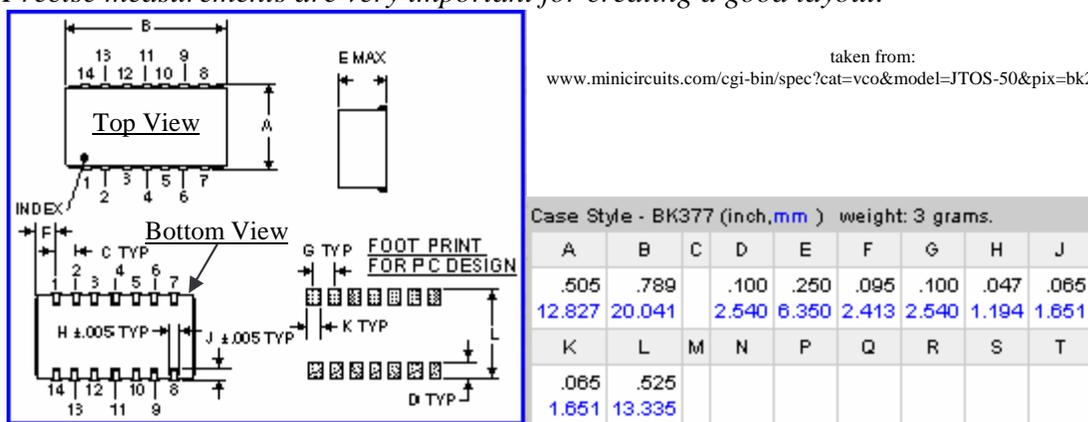
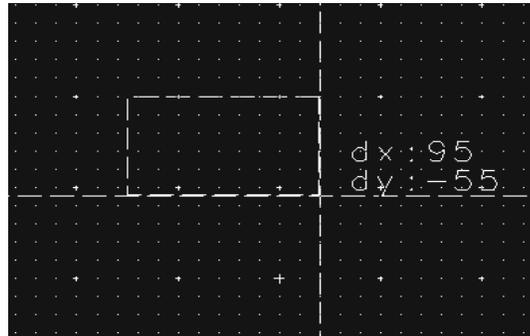
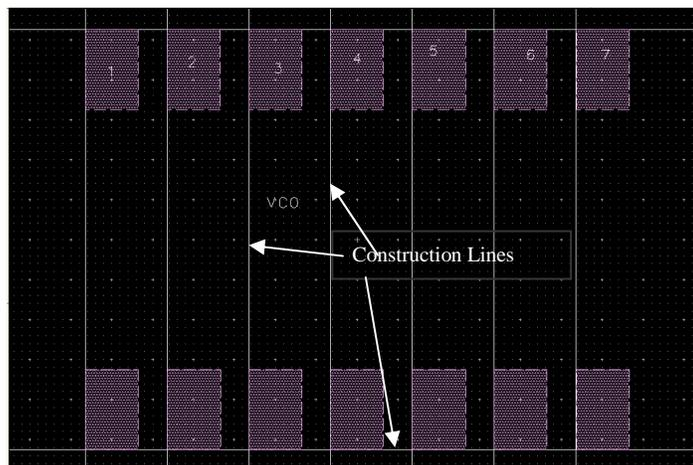

Figure 1: Suggested footprint for the Minicircuits JTOS-50 VCO
Figure 3: ADS Layout screen displaying rectangle placement
Figure 4: Finished VCO footprint with construction lines
The next step in PCB layout design is to create the footprints for each component that will be used in the design. This implies that the designer knows which components will be used before the design is begun. Most companies will provide spec sheets for their products. These spec sheets often contain suggested PCB layout footprints. For example, figure 1 shows the suggested footprint and dimensions for the Minicircuits JTOS-50 Voltage Controlled Oscillator. If part dimensions are not available, the component dimensions will need to be measured. To allow for error, the footprints on the PCB are usually designed to be a bit larger than the actual measurements. *Note: Precise measurements are very important for creating a good layout.*
For this specific component (figure 1) it is important to notice that the top-left picture is a top view of the VCO while the bottom-left picture is a bottom view of the same VCO. Notice particularly that pin 1 is the lower-left pin in the top view but is the upper-left pin in the bottom view. When creating the layout it is important to use the top view for the pin definitions. If the bottom view is used, the pins will be mirrored and will not be connected to the correct pads.
- 2) The footprint for the component in figure 1 is straightforward. As can be seen from the figure, the footprint consists of 14 pads (where the component's pins will be soldered) of equal dimension and spacing. For the VCO shown in figure 1 the pad dimensions are $D \times K$ or 100mils \times 65mils (see figure 1). These pads can easily be created using the **Insert Rectangle** command. As the rectangle is placed, the dimensions will be shown as seen in figure 3. By default, ADS will use increments of 5 mils (if mils are being used) for placing and moving elements. The dimensions can be made finer by selecting **Options à Grid Spacing** and then selecting the desired dimension resolution. The first of the three numbers corresponds to the increment size (i.e. for <5-1-100> the increment size will be 5mils). For footprints that don't use rectangular pads, the circle or polygon tools provided by ADS can be used. If the components are leaded instead of surface mount, the pads will have to involve three layers. For example, if the layers suggested in step 1 were used for a leaded component, the **hole**, **cond**, and **cond2** layers would be required. The **hole** dimensions would need to be just slightly larger than the component's lead dimensions so that the lead can fit easily through
- 3) One advantage of ADS is its ability to copy, paste, rotate, and so forth. This makes the creation of footprints much easier. For the footprint shown in figure 1, the next step would be to copy the rectangle 14 times (once for each of the pads). When copying a part, ADS will prompt for the paste coordinates. Rather than inputting coordinates it is easier to select the **Default** option. The G dimension shown in figure 1 gives the pitch which is important for pad spacing. The finished footprint for the VCO is shown in figure 4. As can be seen in the figure, construction lines can be used to define spacing and other dimensions. A construction line can be placed by selecting **Insert à Construction Line**.